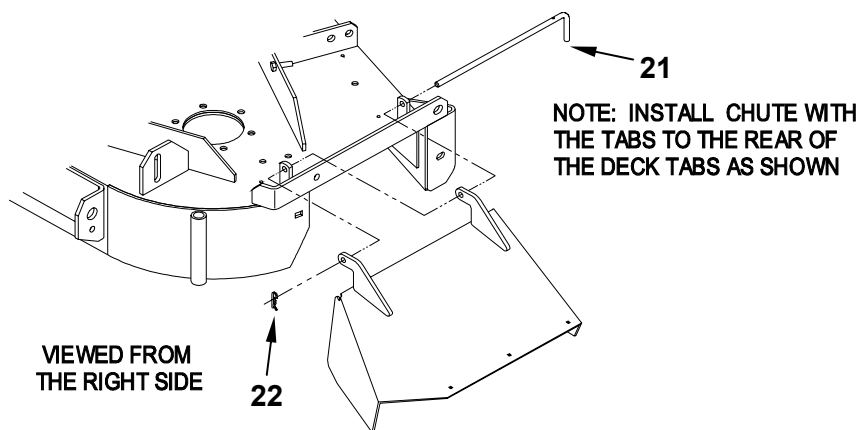

FIGURE 3
- 3.3.6 Install the discharge chute using the chute pivot pin and hairpin (see Figure 3).